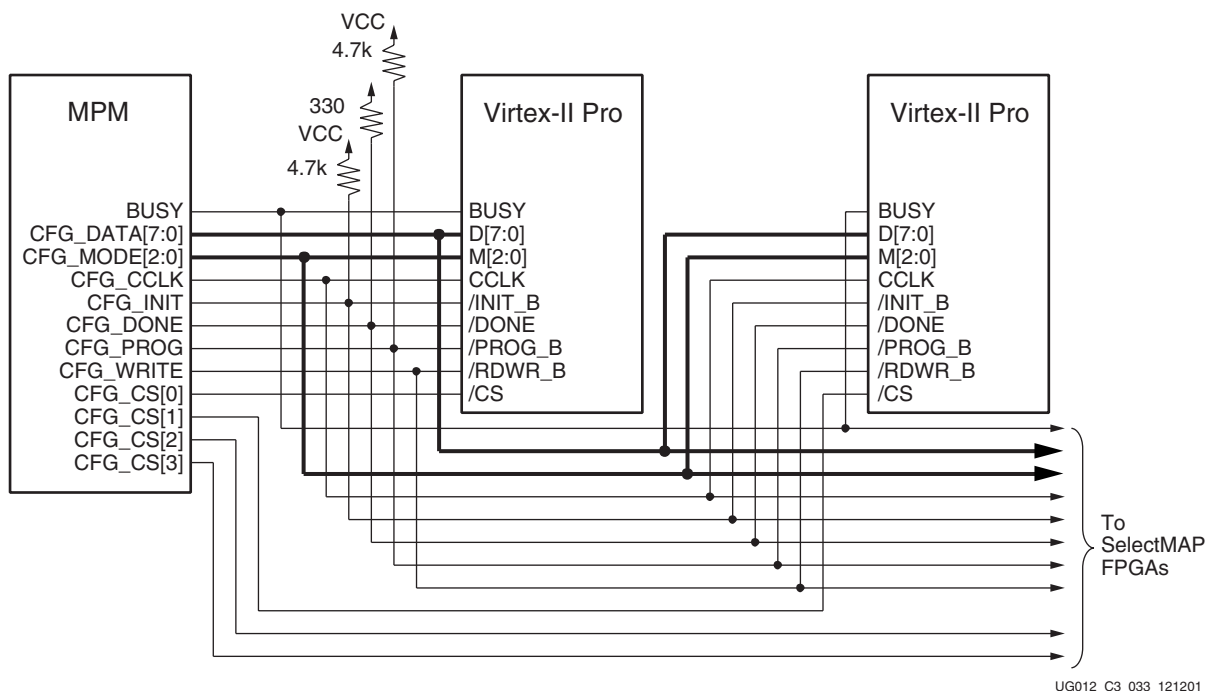
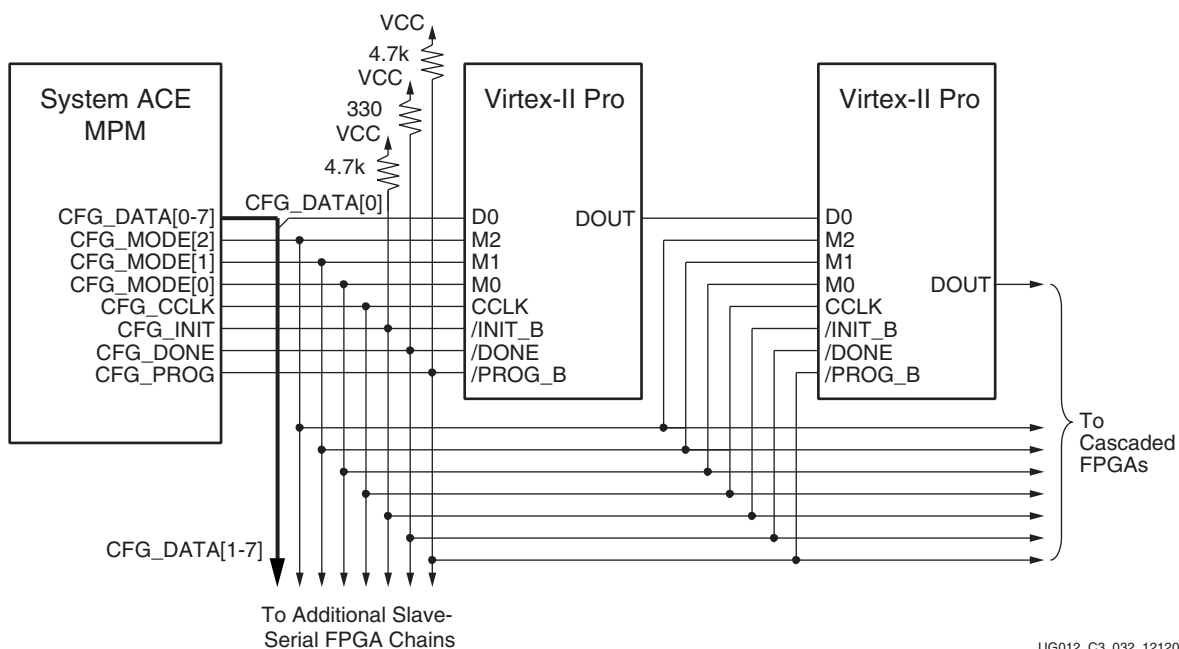

Figure 3-6: SelectMAP (8-bit) Configuration
Figure 3-7: Slave Serial (1-bit) Configuration
- Support for both SelectMAP (8-bit) (see **Figure 3-6**) and Slave Serial (1-bit) (see **Figure 3-7**) configuration